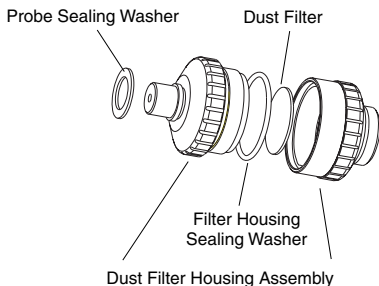

Figure 4.6 Dust Filter Assembly
- 1) Unscrew the filter housing assembly (Figure 4.6).